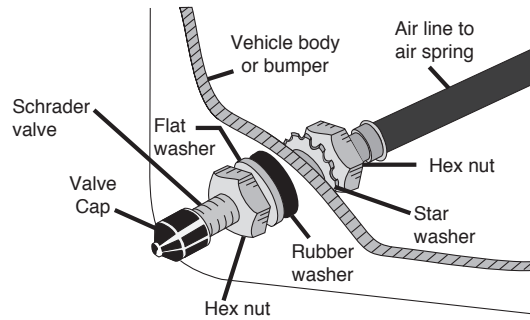

fig. 12
- Route the air line along the frame to the air spring fitting (Fig. 12). Keep AT LEAST 6" of clearance between the air line and the exhaust system. Avoid sharp bends and edges. Use zip ties to secure the air line to fixed points along the chassis. Do not pinch the air line. Leave at least 2" of slack to allow for any movement that might pull on the air line.